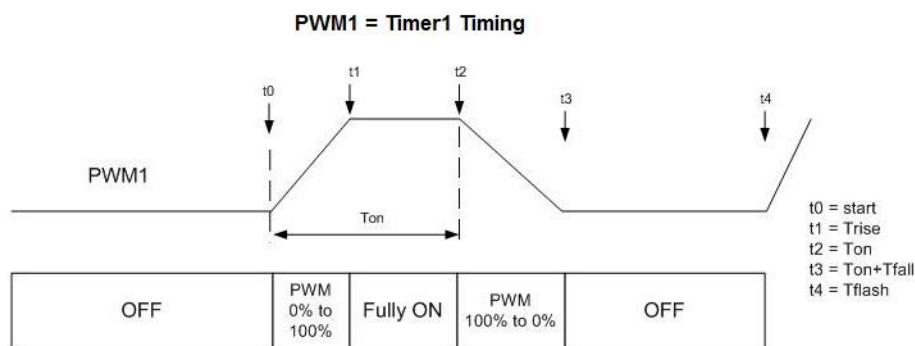

Figure 6. PWM Timing Diagram
- Timer1, Timer2: set the on time (T_{on}) duration for each timer, (including rise time and LED full on time, as shown in Figure 6).
Two on-board PWM timers (Timer1 and Timer2) allow the user to generate various LED blinking patterns. The timer1/2 register value (between 0 and 255 decimal) sets the LED ON time (T_{on}) as a percentage of the flash period, as shown in Figure 6. The on time for timer1/2 is displayed on the GUI in seconds.